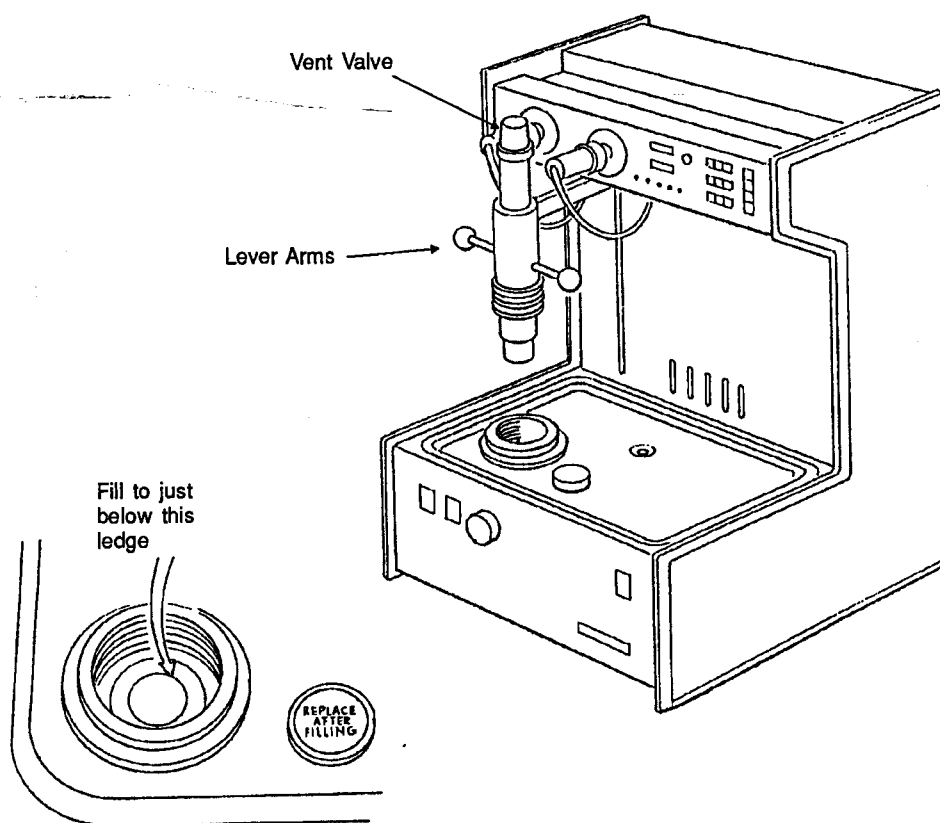

Figure 2-9. Checking Fluid Level
1. Turn the vent valve (refer to Figure 2-9) counterclockwise one or two turns.
3. Wait a few moments to allow high pressure fluid to drain back into the chamber, then observe the level of fluid in the chamber. It should be just below the ledge shown in Figure 2-9. If the fluid is below this level, add fluid.